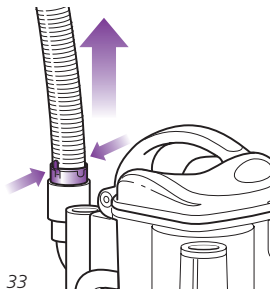

Fig. 33
- Detach the stretch hose from the back of the portable *Lift-Away*® canister by squeezing the tabs together and pulling up. (Fig. 33) Straighten out the hose and look inside for blockages.